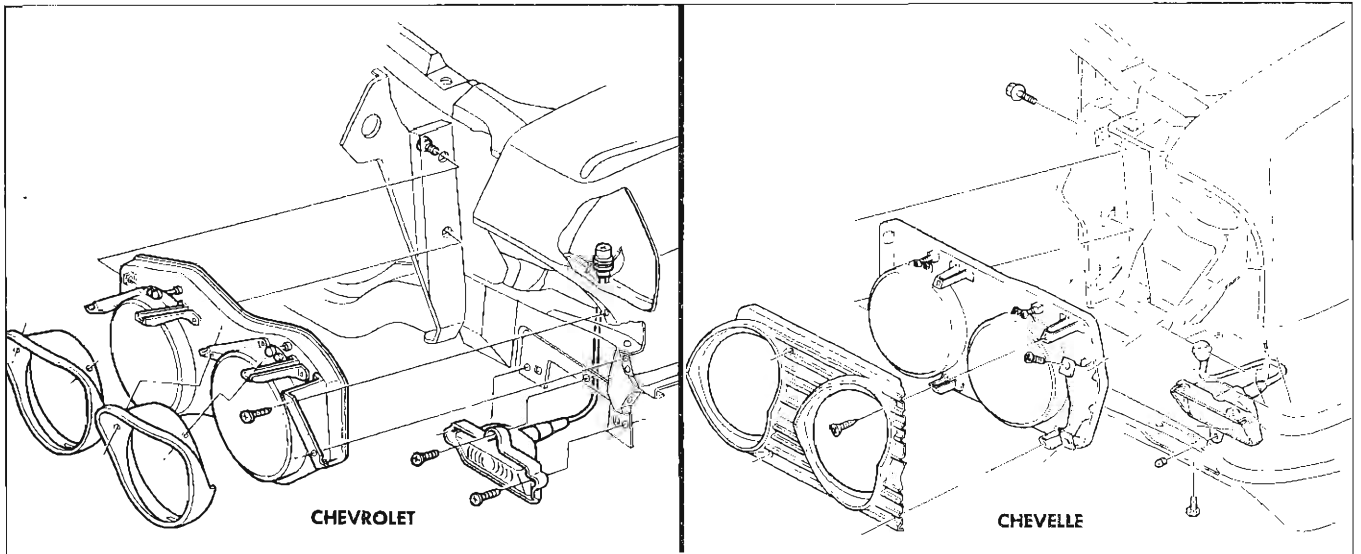

Fig. 9—Headlamp Assemblies
1. Remove headlamp bezel retaining screws and bezel (fig. 9).